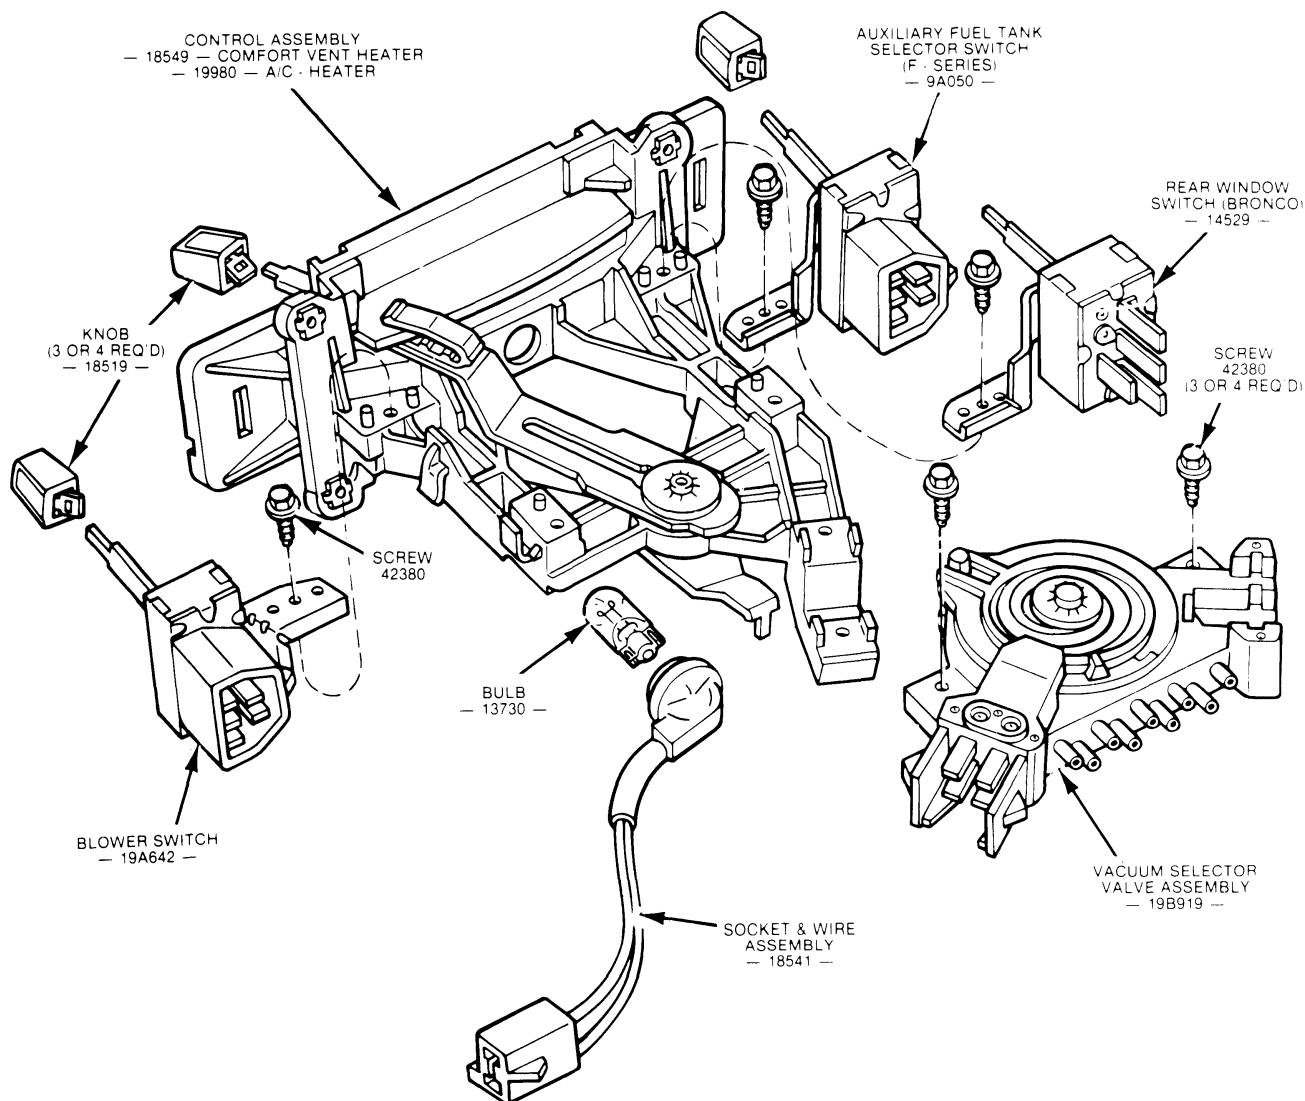

Fig. 7 — Comfort Vent Heater Control Assembly Disassembled
7. Remove one (1) screw attaching the switch to the bottom of the control assembly and remove the switch (Fig. 7).
2. Remove two (2) screws attaching the vacuum selector valve to the control assembly and remove the selector valve (Fig. 7).
1. Position the vacuum selector valve to the control assembly, engaging the actuating arm of the selector valve in the slot of the function selector lever (Fig. 7).
2. Install the two (2) vacuum selector valve attaching screws.